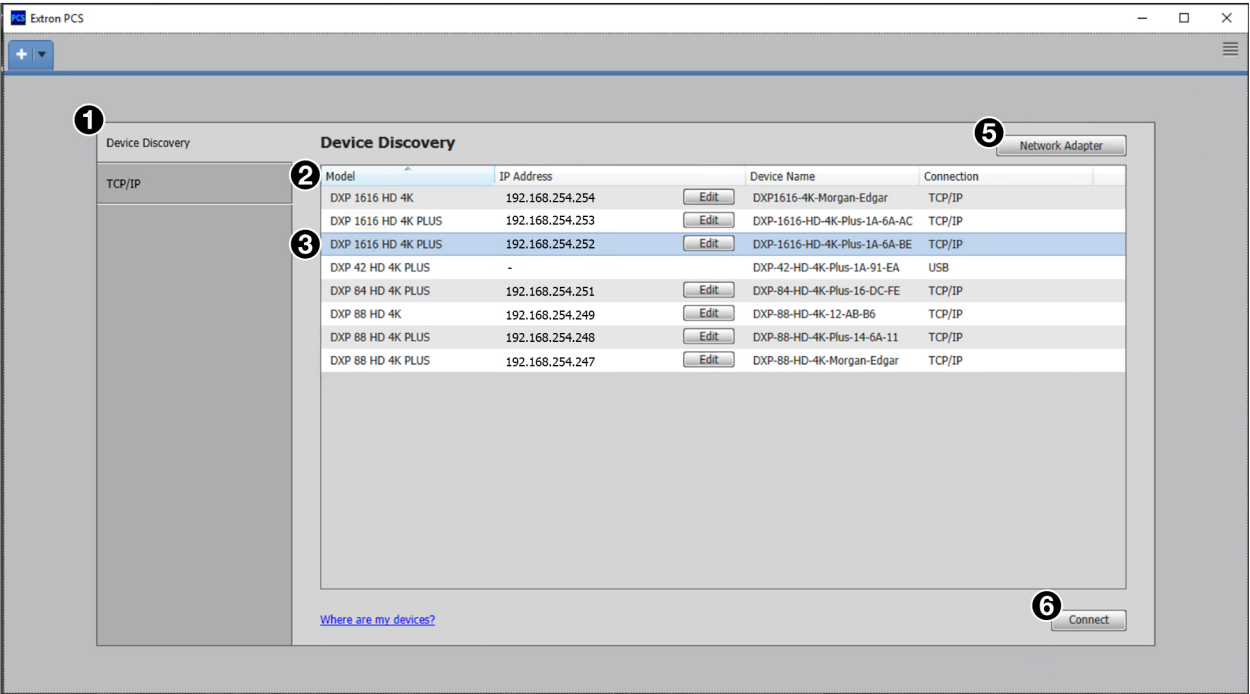
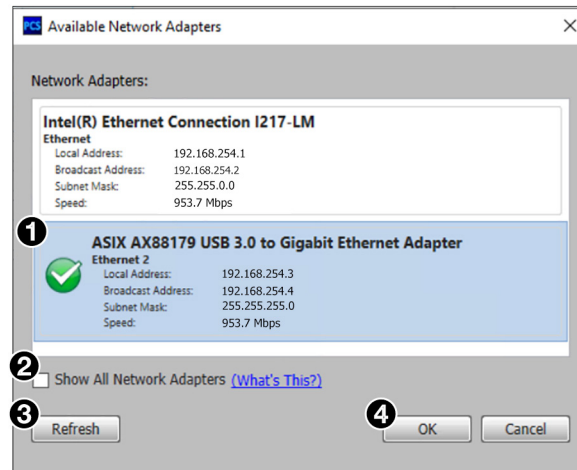

Figure 94. PCS Window, Device Discovery Panel
Figure 95. Network Adapter Window
1. Click the **Device Discovery** tab (see figure 94, **1**).
1. On the **Device Discovery** panel, click **Network Adapter** (see figure 94, ⑤), on the previous page. The **Network Adapter** window opens, displaying the available network adapters with gateways. The currently selected network adapter is highlighted (see figure 95, ①).
1. Click the **Device Discovery** tab (see figure 94, ① on the previous page).
2. Select the desired device (③).
3. Click the **Connect** button (⑤). A new device configuration tab opens.